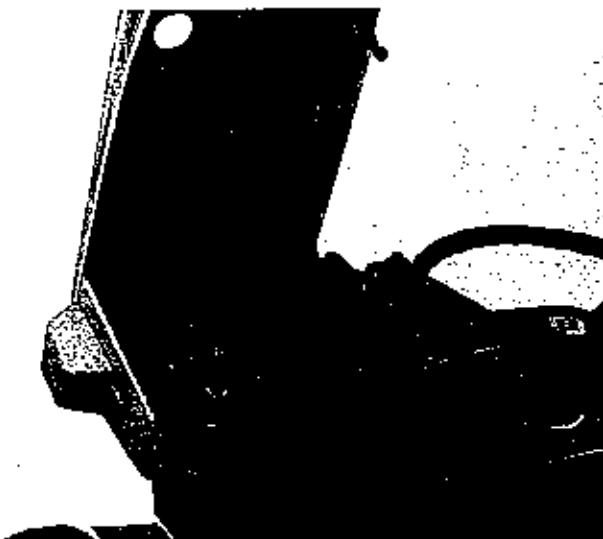
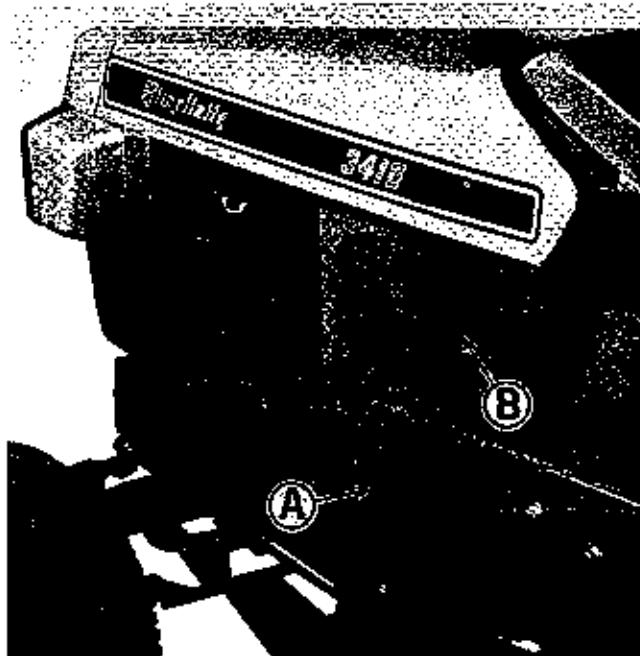

Figure 8. Tractor hood raised for easy access.
Figure 7. Left side of tractor.
See figure 7. The tractor hood is hinged at the front by two spring loaded bolts. It may be easily opened by releasing the two rubber straps (B) located on either side of the hood. Pull down and out on the straps to release them. See figure 8. Lift upward on the back of the hood to raise it as shown. The hood raised in this position provides easy access to the generator, battery, fuel tank, engine, etc.